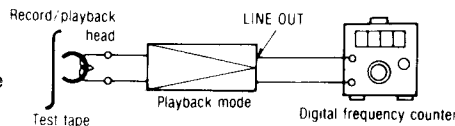

Fig. 10
1. Test equipment connection is shown in fig. 10.